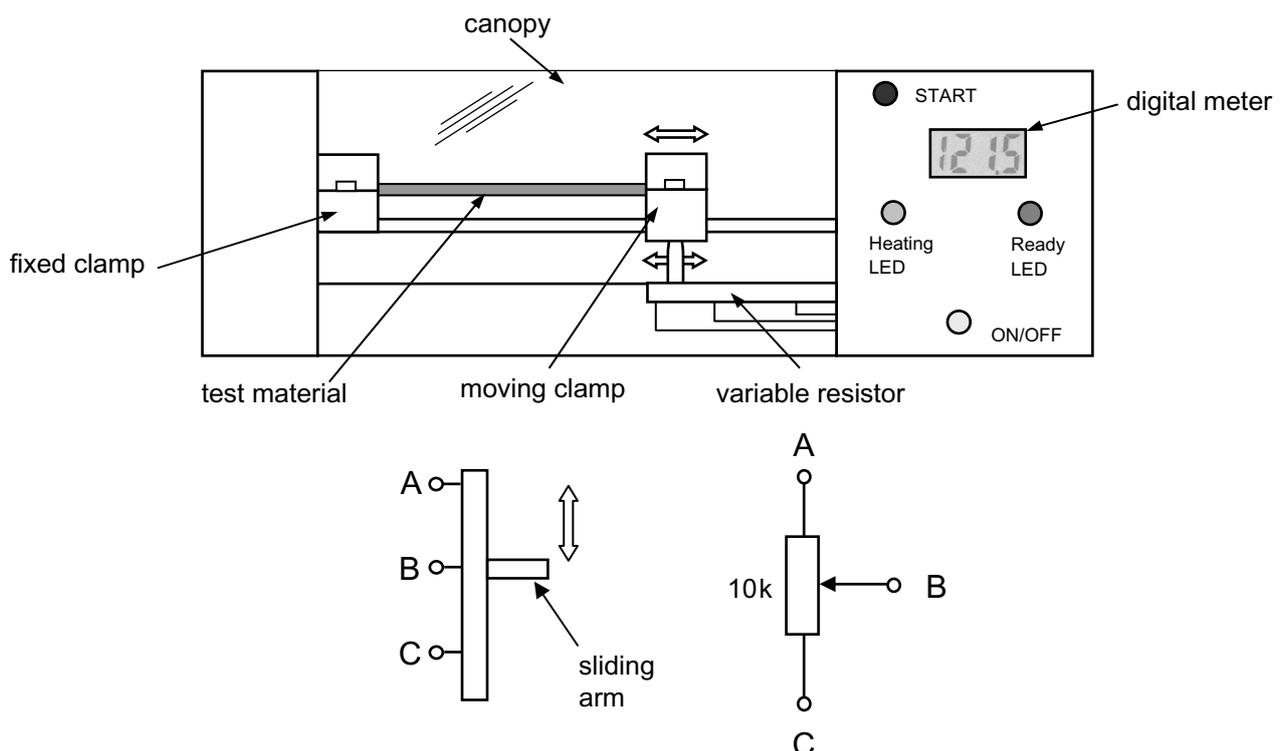

Fig. 1(c)
- (i) Sketch a graph with labelled axes to show how the resistance (measured between terminals A and B) changes as the sliding arm in Fig. 1(c) is moved from the mid-position shown towards terminal A. [2]
- (ii) With the aid of a circuit diagram show how the variable resistor shown in **Fig. 1(c)** could be connected to provide an output voltage that increases as the sliding arm is moved towards terminal A. [1]
- (iii) The voltage at terminal B in **Fig. 1(c)** is to be displayed on a digital meter. The maximum movement of the sliding arm of the variable resistor is 15 mm which produces a change in voltage at terminal B of 50 mV for every 0.1 mm moved. It is required that the voltage displayed by a digital meter, in millivolts, should represent the distance travelled by the sliding arm of the variable resistor i.e. the digital meter should display 1 mv when the wiper has moved by 0.001 mm. Determine the gain of an amplifier required to be connected between terminal B on the variable resistor and the digital meter to meet this requirement. [3]